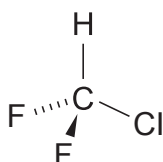

Figure 2: Structure of R-22
- 10 The most common refrigerant used in air-conditioning systems before the year 2000 was a CFC (chlorofluorocarbon) called R-22, also known as Freon. The structure of R-22 is shown in **Figure 2**. Despite a total ban on CFCs coming into effect in 2014 many companies are still replacing their cooling systems and consequently there are plenty of air-conditioning systems still using R-22.